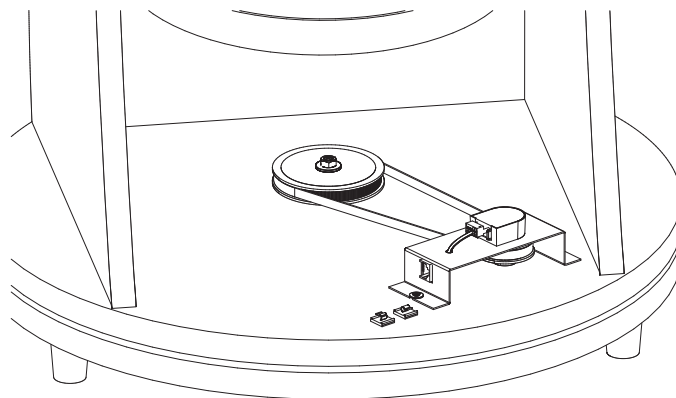

Fig. 3 Timing belt installation
7) Install the timing belt around the smaller diameter pulley on the azimuth encoder shaft. Wrap the other end of the timing belt around the larger diameter azimuth pulley. Whilst ensuring the belt stays engaged in the teeth of both pulleys, move the encoder bracket toward the open end of the rocker box to a position where its cable jack will be easily accessed, as per Fig. 3, ensuring that the belt is snug. Mark a couple of points for the screws that will be used to fasten the bracket. Using the supplied screws and washers, mount the bracket to the inside base of the rocker. A second set of hands can be helpful to hold the bracket in place whilst you fasten the screws. There is no need for the belt to be overly tight, simply snug. The encoder is mounted in a slot in the bracket via a 3/8" hex nut and washer and can be adjusted to tension the belt correctly if need be. The smaller pulley on the encoder can also be adjusted up or down the encoder shaft to match the height of the larger diameter pulley. A hex key is supplied for the set-screws found on the bores of the pulleys.